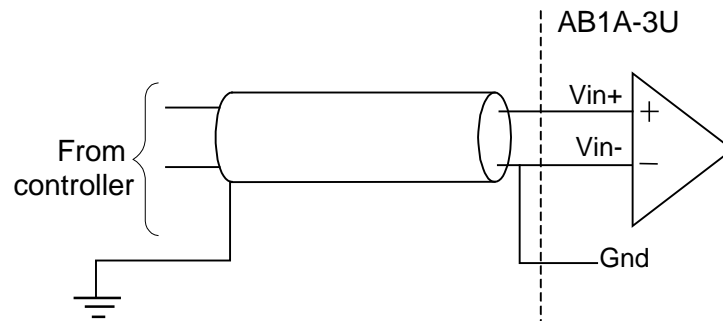

Figure 4: Non-Differential (single ended) Analog Input Connection.
| Figure 4: Non-Differential (single ended) Analog Input Connection..... | 15 |
- Single-Ended Connection (see Figure 4)